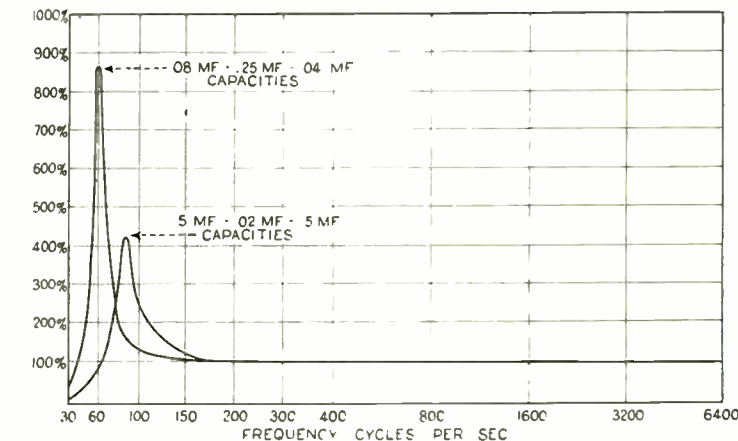

Fig. 4. Two frequency characteristic curves of a three stage tuned double impedance amplifier, using different values of coupling condensers
- FIG. 4 -
In Fig. 4 we have a driver circuit that is best suited to the requirements of laboratory usage. In this circuit the grid coil is untuned and has a high resistance voltage divider connected across it, the center arm of the
In Figs. 4 and 5 are given some curves for different combinations of capacities and we call particular attention to the one using the standard combination of .5 mfd., .02 mfd., and .5 mfd. without resistances. This is a good all around combination for all purposes as it strikes a happy medium between the three classes of speakers mentioned above.